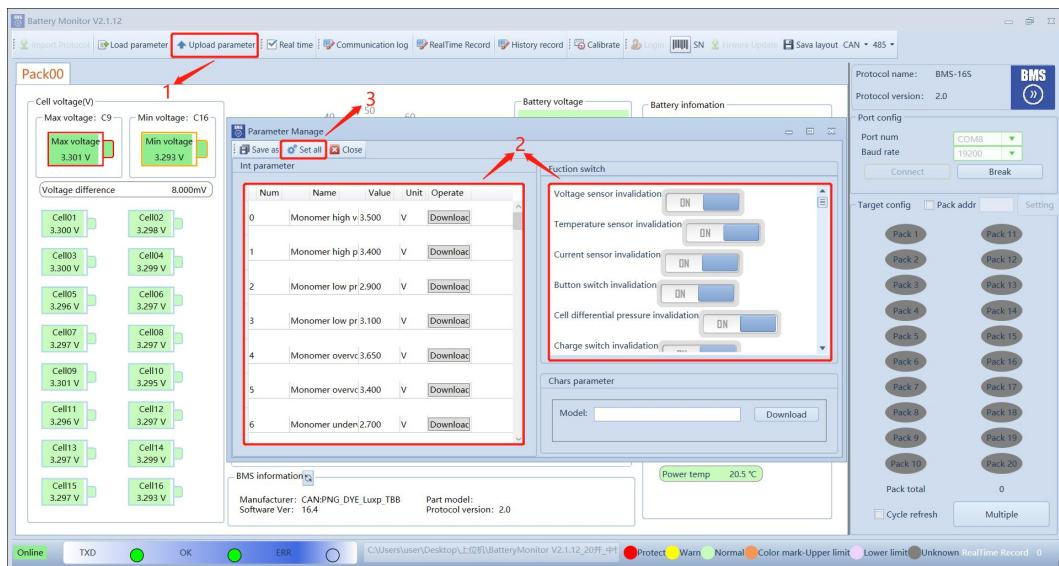

Figure6-4
- 3) Click "Set all" to complete the modification,Figure 6-4